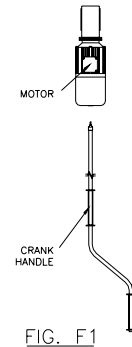

FIG. F1
- * **Use Manual Crank Handle** to turn Fabric Roll (Figure F1).